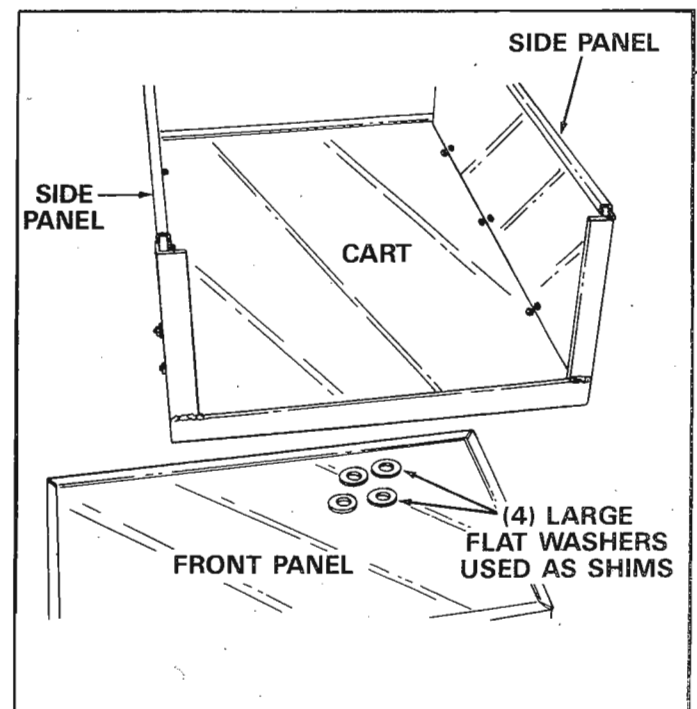

FIGURE 8
- Remove the front panel, by sliding it out, and remove the four large washers you used for shims. See figure 8.